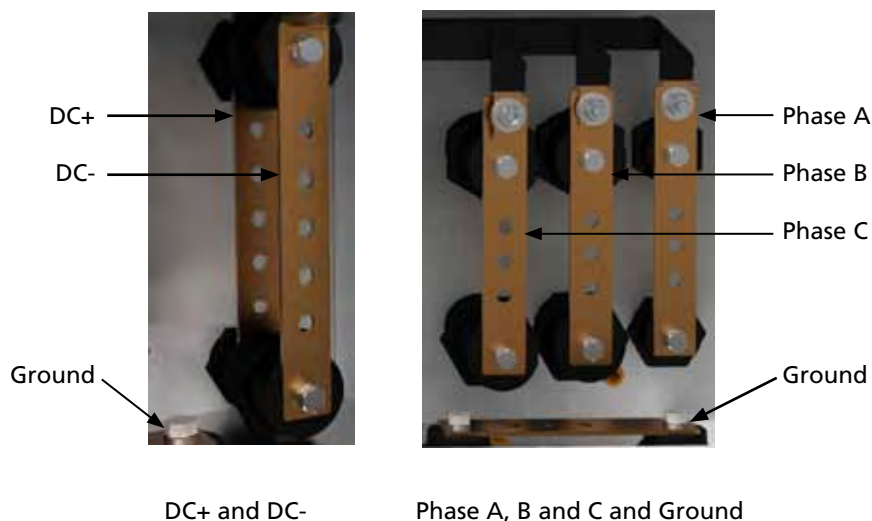
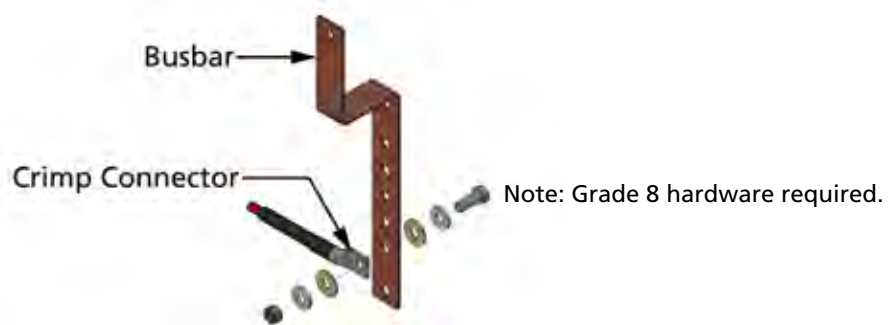

Figure 4-9 DC and Phase Inverter Connections
Figure 4-10 Busbar Connections
The AC and DC busbars accept standard terminal lug-crimped wires mounted to the busbar fittings with standard 3/8" mounting hardware. Refer to Figure 4-9.
The four AC busbars, Phases A, B, C and Ground are located in the lower right of the AC/DC panel. Refer to Figure 4-9. Each phase busbar is vertically mounted and the ground bar is at the bottom of the cabinet and mounted horizontally. Each busbar has three 3/8" diameter holes spaced 1" apart vertically. Use 3/8" hardware to secure the lugs of the outgoing AC cables to the busbar. Torque hardware to 40 ft-lbs.
5. Connect the wire from Phase A of the AC panel to the terminal marked 'PHASE A' on the AC terminal inside the inverter. Refer to Figure 4-9 for the location and Figure 4-10 for making the connection.
6. Connect the wire from Phase B of the AC panel to the terminal marked 'PHASE B' on the AC terminal inside the inverter. Refer to Figure 4-9 for the location and Figure 4-10 for making the connection.
7. Connect the wire from Phase C of the AC panel to the terminal marked 'PHASE C' on the AC terminal inside the inverter. Refer to Figure 4-9 for the location and Figure 4-10 for making the connection.
The three DC busbars, Positive, Negative and Ground are located in the lower left of the AC/DC panel. Refer to Figure 4-9. The positive and negative bars are vertically mounted and the ground bar is at the bottom of the cabinet and mounted horizontally. Each busbar has 3/8" diameter holes spaced 1" apart vertically. Use 3/8" hardware to secure the lugs of the incoming DC cables to the busbar. Torque hardware to 40 ft-lbs. See Appendix D, Table D-10 for wire sizing limits for inverters with an optional, fused subcombiner.
Follow these steps to wire the DC inputs from the PV panels to the inverter. Refer to Figure 4-9.
5. Connect positive DC lead(s) to the positive terminals located on the busbar or fuse holder as applicable. Refer to Figure 4-9. The DC landing torque spec is 40 ft-lbs.
6. Connect negative DC lead(s) directly to the negative terminals located on the busbar or fusing as shown in Figure 4-9. The DC landing torque specification is 40 ft-lbs.